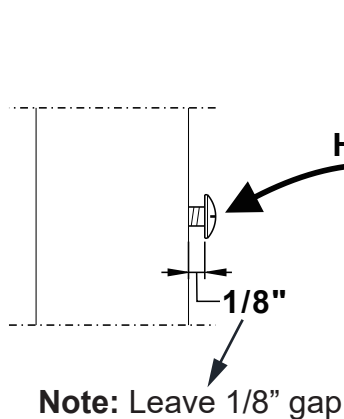

Figure 3.1
1. Install **H5** Mounting Screw to the pilot hole which is marked with black marker on the **back center** of the dartboard and leave approx. 1/8" of the screw head exposed from the backboard per shown on **Figure 3.1**. (This will allow you to "Hang" the dartboard onto mounting bracket which was intalled in Step 1).
**Note:** While Figure 3.1 shows a 1/8" gap in order to hang the dartboard onto the hanger, a small amount of "adjusting" may be required on the H5 center screw in order to achieve the best fit for the dartboard onto the cabinet.